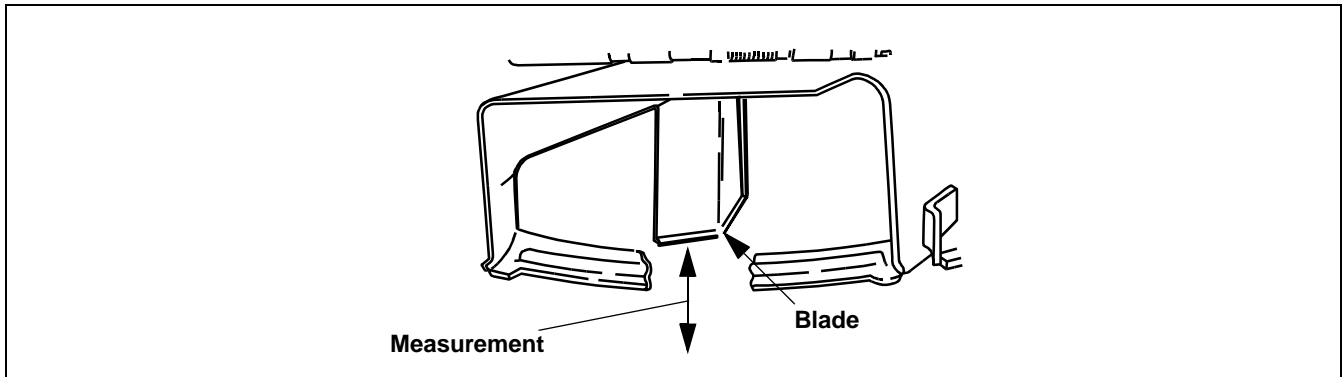

Figure 19
7. Raise the lift handle to the highest setting (7).
9. Measure and record the distance from the hard, level surface to the outermost edge of the right and left blade. (See Figure 19)